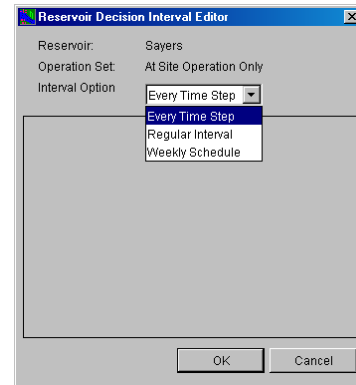

Figure 11.52 Reservoir Decision Interval Editor, Interval Options
By default, the reservoir makes a new release decision at every computation interval. The Reservoir Decision Interval Editor (Figure 11.52) allows you to specify a different decision interval (or schedule). By changing the decision interval, you can require the reservoir to evaluate conditions over a varying time horizon to determine its releases.
1. Select **Decision Interval** from the **Operations** menu of the Reservoir Editor. The **Reservoir Decision Interval Editor** will open (Figure 11.52).